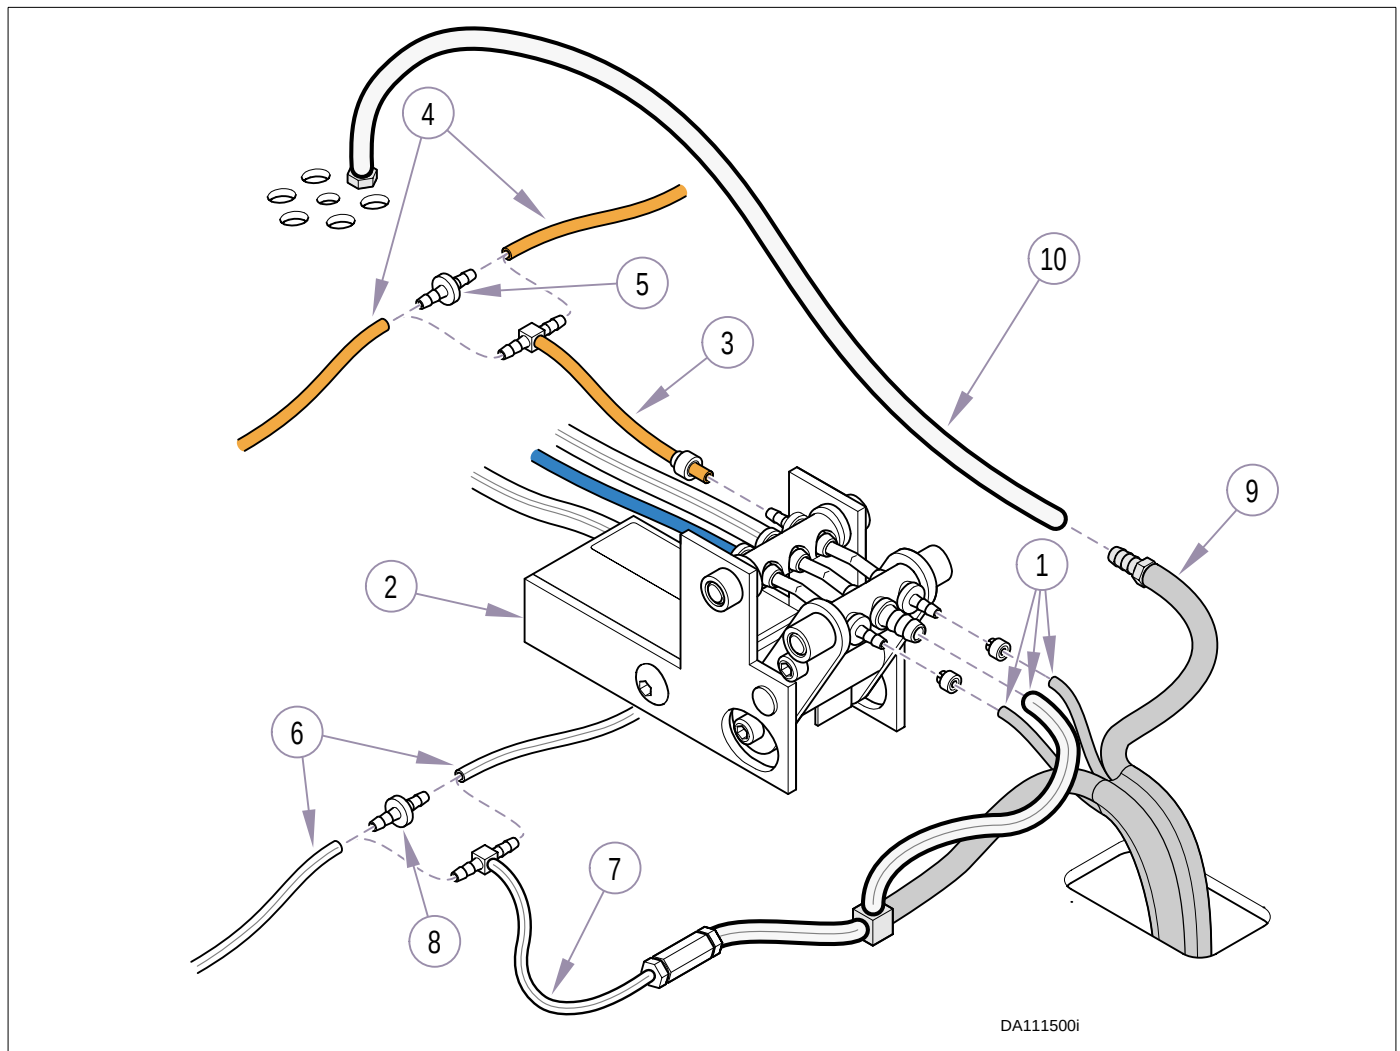

Figure 4-17. Removal of Existing Handpiece Tubing
- (1) Disconnect three handpiece tubes (1, Figure 4-17) from kink valve (2).
- (2) Disconnect 1/8" orange tube (3) from kink valve (2).
- (3) Disconnect two pieces of 1/8" orange tubing (4) from 1/8" orange tube (3); then insert straight barb fitting (5).
- (4) Disconnect two pieces of 1/8" clear tubing (6) from 1/8" clear tube (7); then insert straight barb fitting (8).